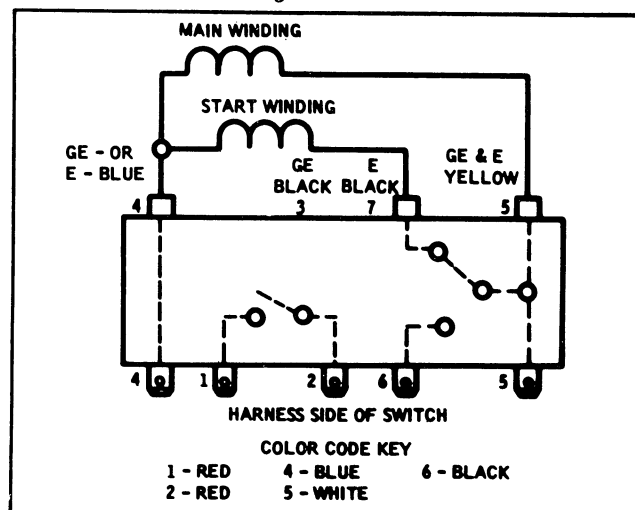

Figure WC53B
centrifugal switch and its internal make-up is illustrated in *Figure WC53B*. The switch, besides separating the starting phase after operating speed of the motor, is attained and has a switch device built into it that
1. Using *Figure WC53B* as a guide, check across the various terminals for continuity. The centrifugal switch should be removed from the motor for this test.